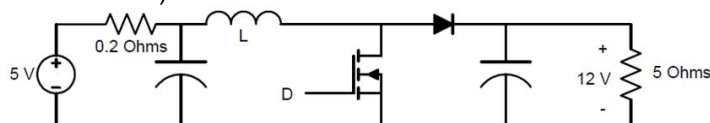

Figure 4.1 Boost converter
3. Figure 4.1 shows a boost (up) converter supplying 12 V to a load of  $5 \, \Omega$  from a 5 V source having an internal resistance of  $0.2 \, \Omega$ . Determine the duty ratio  $D$  at which the converter operates. (You may neglect semiconductor device drops in your calculations.)